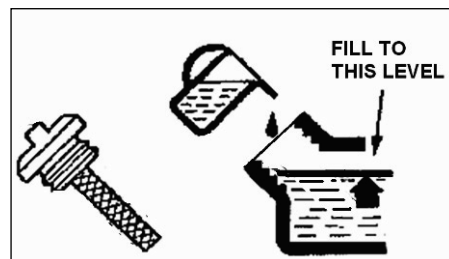

Figure 22- Adding oil
3. Using a funnel, add the appropriate type and amount of oil into the crankcase. The crankcase is full when the oil level has reached the second thread from the lip of the opening (see figure 22).